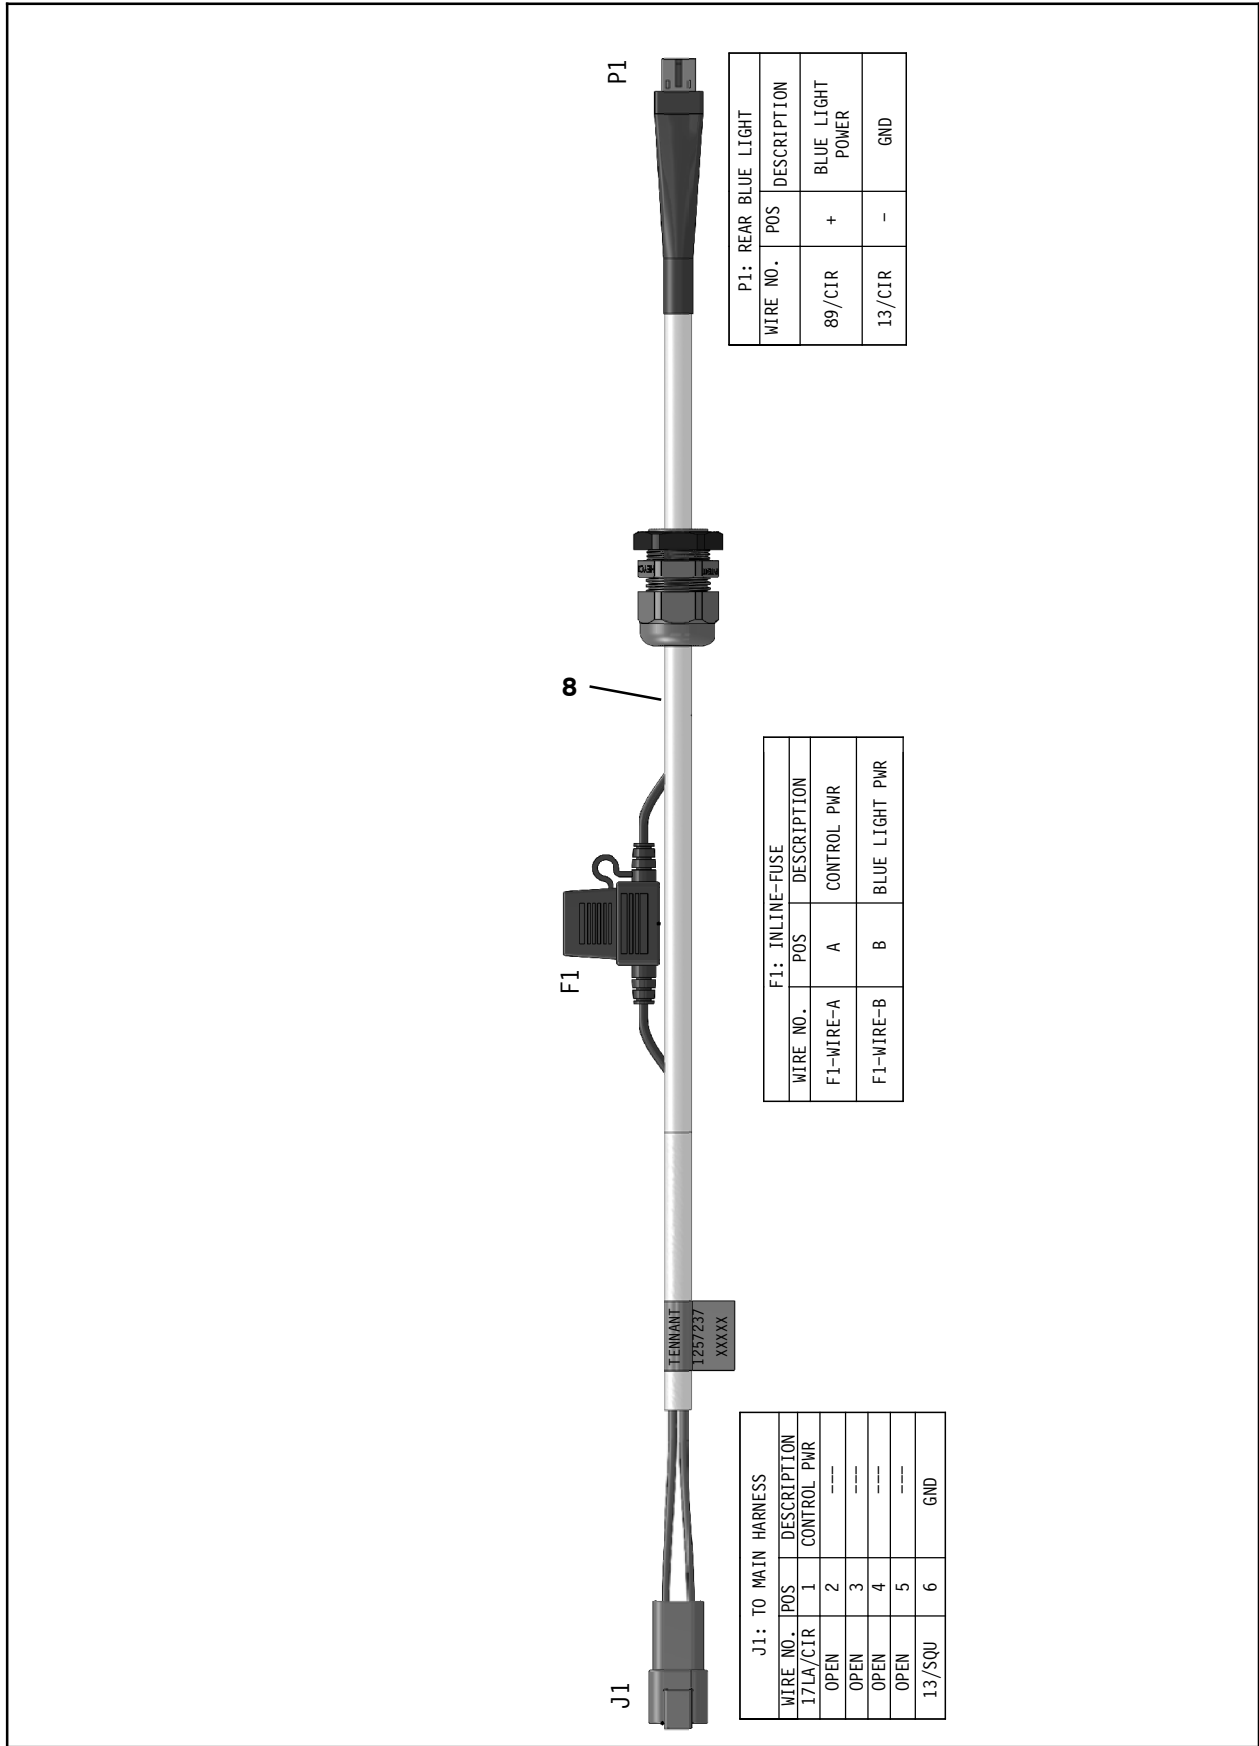

FIG. 17
37. Connect the other end of the blue spotlight rear harness (8) to the main wire harness ALARM/LIGHT ASSY lead/connector. (Fig. 17)